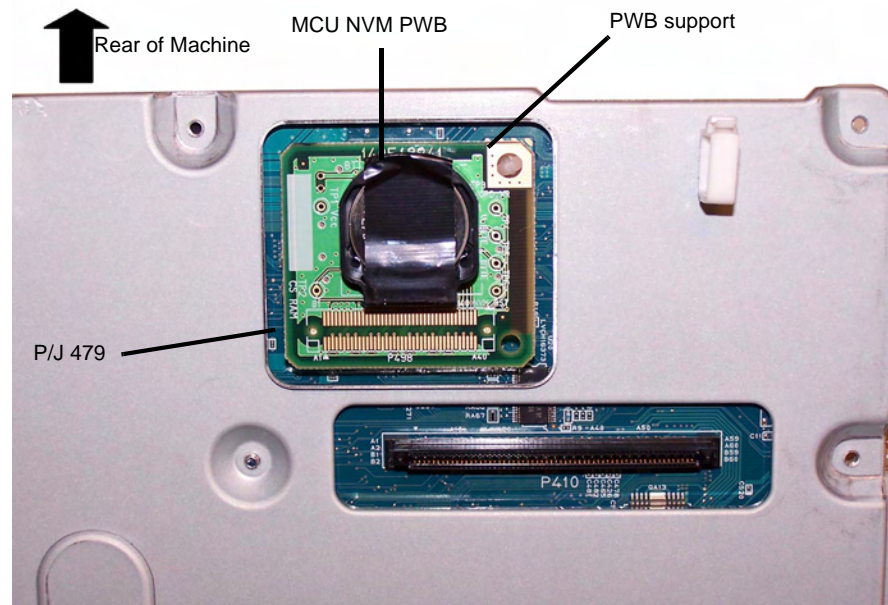

Figure 1 MCU NVM PWB viewed from below
4. Remove the MCU NVM PWB (Figure 1) from the rear lower surface of the MCU PWB.